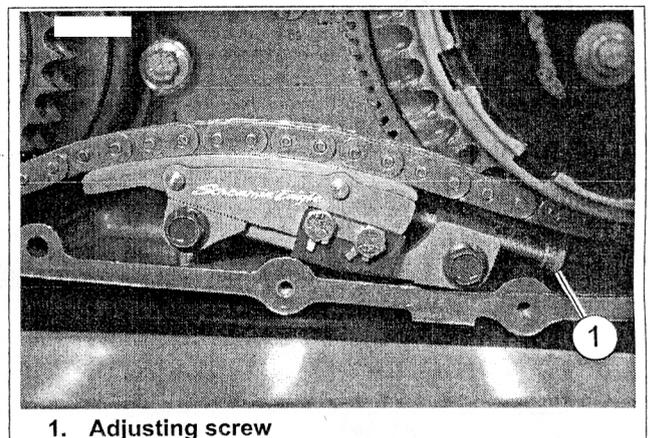

Figure 3. Adjusting the Chain
9. See Figure 3 and Table 1. Using a ball end hex driver for the socket head cap screw adjust the chain tension to specifications.